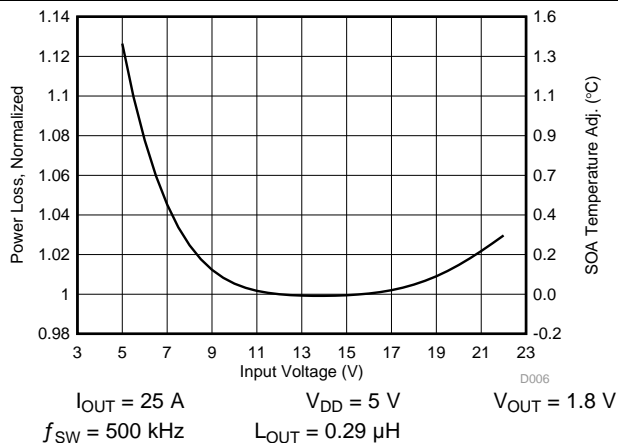

Figure 9. Normalized Power Loss vs Input Voltage
- Normalized Power Loss for input voltage ≈ 1.04 (Figure 9)
- SOA adjustment for input voltage $\approx 0.42^\circ\text{C}$ (Figure 9)